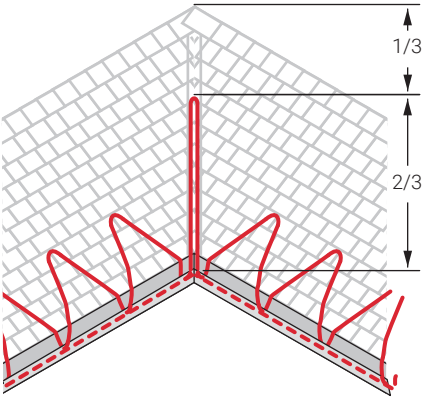

Figure 11: Layout for valley
Ice dams may form at the valley on a roof where two different slopes meet. To maintain a continuous path for melt water, run the heating cable up and down the valley as shown in Figures 11 and 12. Additional heating cable may be needed for the roof surface, gutters, and downspouts.
3. Trace two-thirds of the way up each valley with a double run of heating cable (loop up and back once) as shown in Figure 11 taking care not to damage the heating cable. Secure cable in place using roof clips available from the manufacturer.